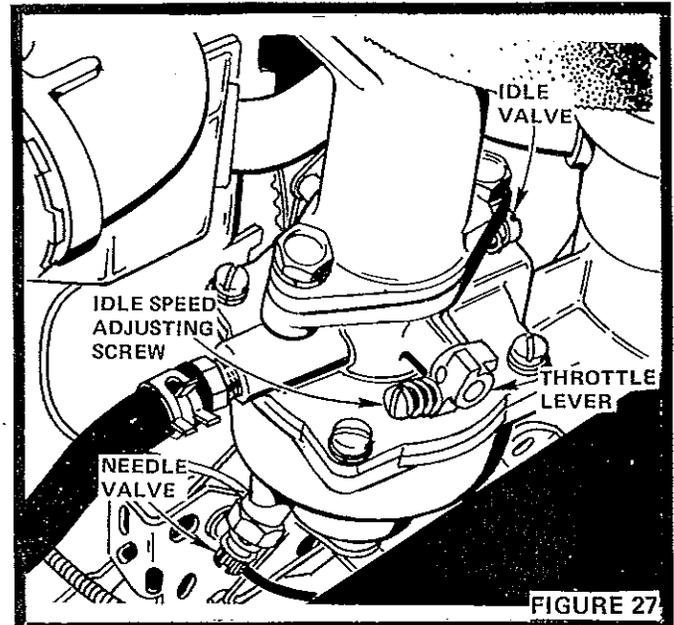

FIGURE 27
- Turn Needle Valve clockwise, closing finger tight ONLY, and then turn counterclockwise 1 - 1/8 turn (Fig. 27).